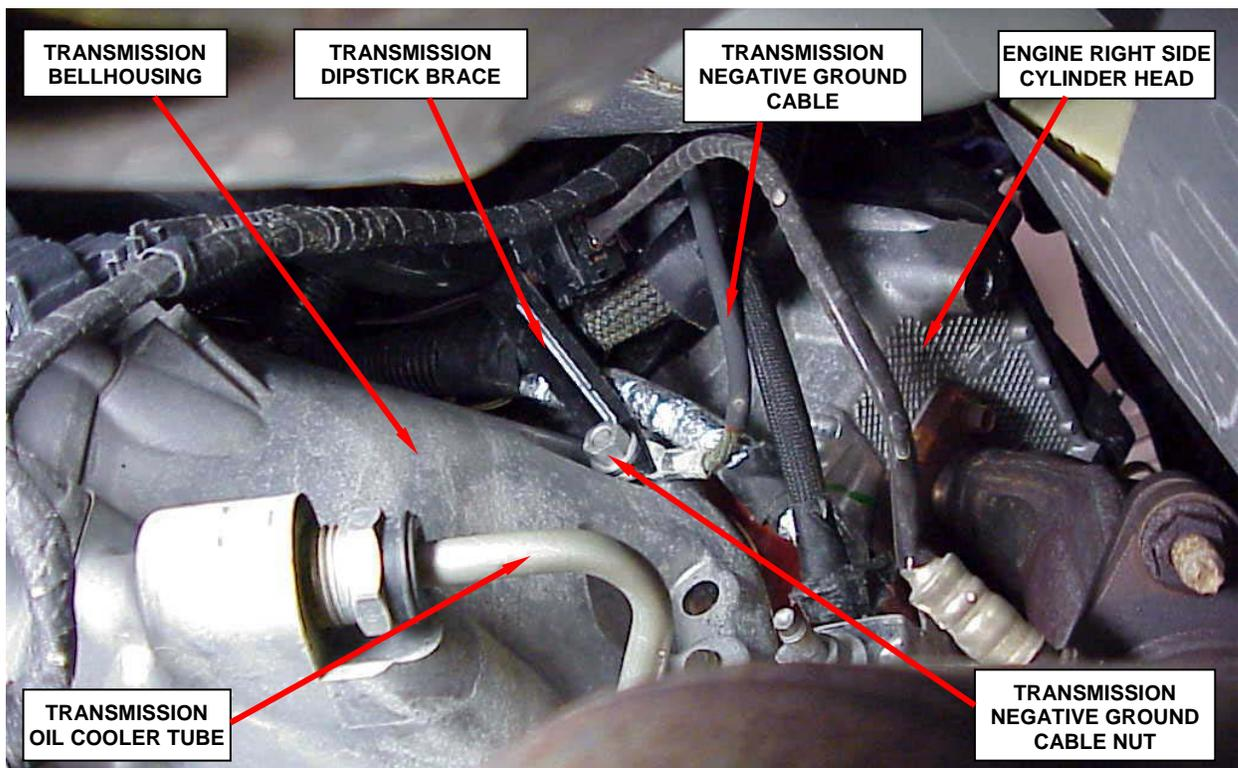

Figure 5 – Transmission Ground Cable Connection (Viewed from Under Vehicle)
- d. Remove and save the nut securing the transmission negative ground cable to the transmission bellhousing stud. (Figure 5).
- e. **Vehicles equipped with an automatic transmission**, relocate the transmission dipstick brace from the transmission bellhousing stud (Figure 5).
- i. **Vehicles equipped with an automatic transmission**, position the transmission dipstick brace onto the transmission stud (Figure 5).